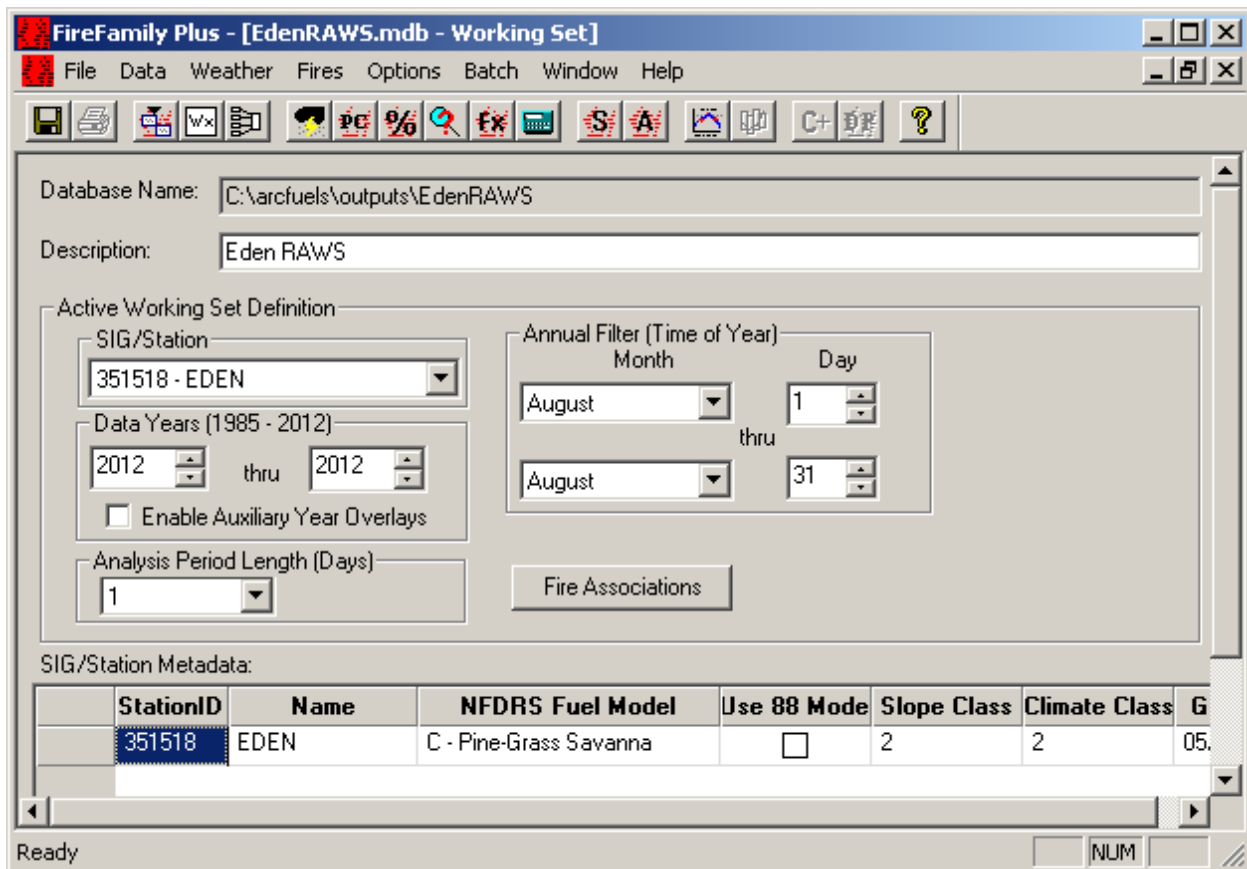

Figure 3-33—Main FFP page with the EDEN RAWS selected for August 2012.
- 1) On the home FFP screen, the *Active Working Set Definition* will be updated to represent the month of August for 2012 for the hourly data analysis (fig. 3-33).